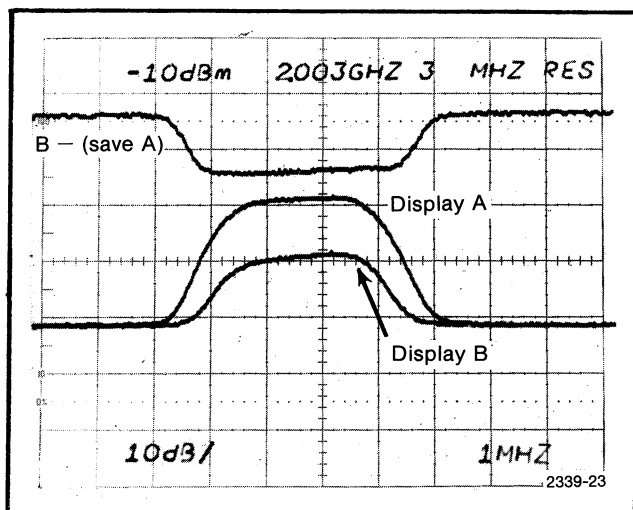

Fig. 3-8. Using digital storage feature to measure differential between two displays.
- e. Check-B—(SAVE A) display should be the difference between display B and display A (approximately 10 dB), see Fig. 3-8.